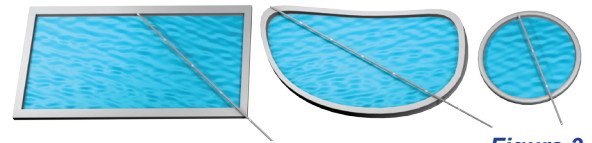

Figure 3
2. Then add one extra length so that you have enough hose to reach the furthest point of your pool plus one extra hose length. See **Figure 3**. For skimmer application, the **Female/Female Hose** should be used and connects directly to the **Flow Control Valve** inside the skimmer. For dedicated vacuum line installation, the **Flow Control Valve** is not used and the male end of the hose connects to the suction port in the pool wall.